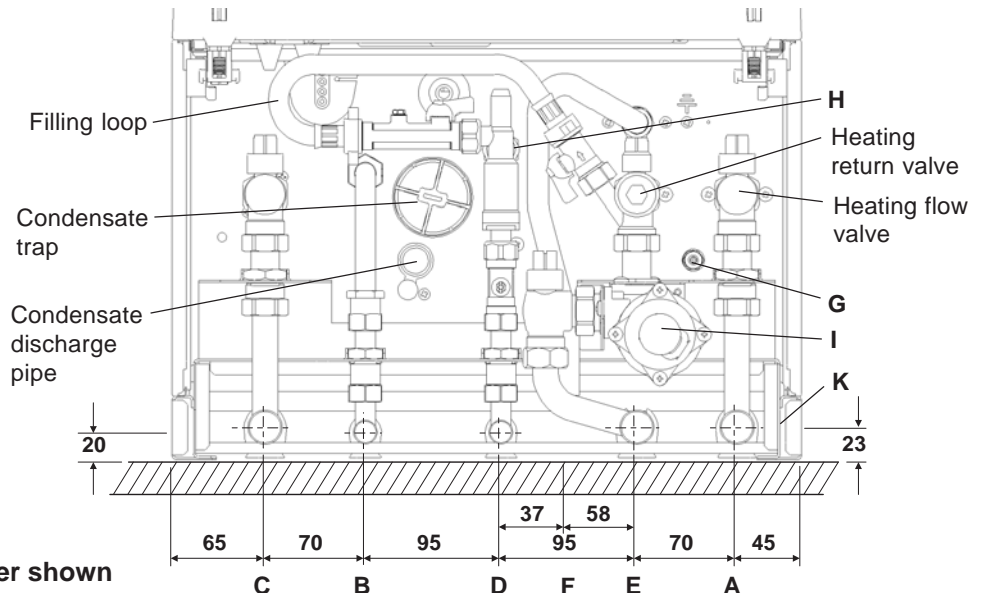

Fig. 3 - Alpha CD C boiler shown
b. Water Connections - See Fig. 3